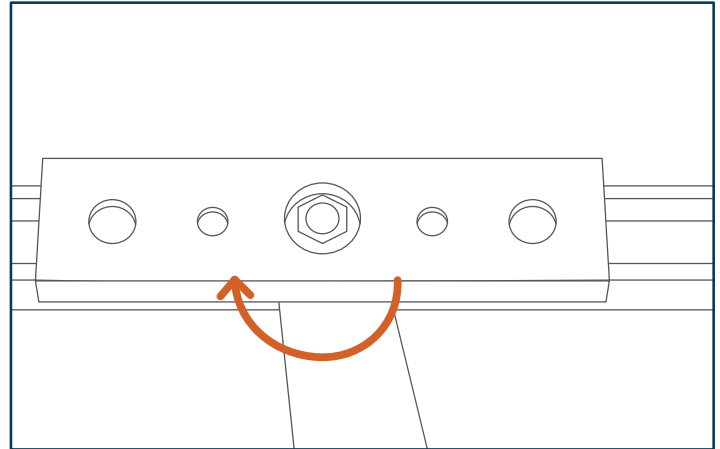

Fig. 2 - Fit up adjustment
Step 4: When the wheel/stud is loose enough, it can be rotated with a wrench, as shown in Fig. 2. Rotating the eccentric wheel's stud will adjust the wheel location into or out of mesh with the channel.